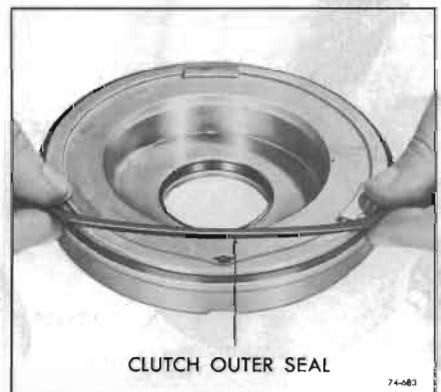

Figure 74-683
2. Install a new outer clutch piston seal. See Figure 74-683.